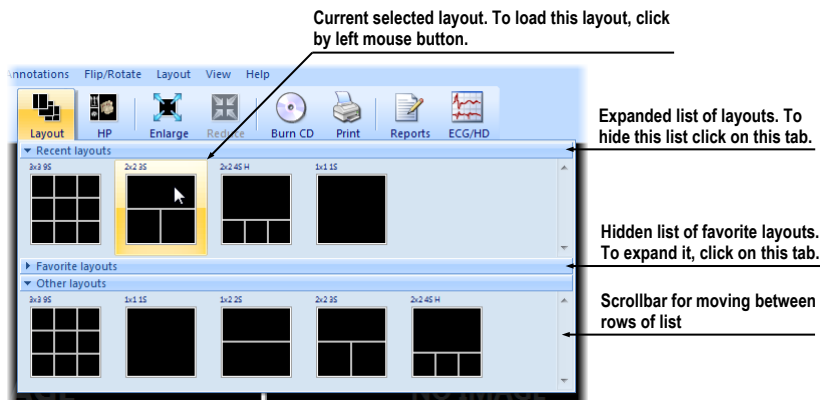

Figure 12 – Layouts list
2. Click with left mouse button on the requested layout in window (see Figure 12), which will be displayed. Selected layout will be automatically loaded to application.